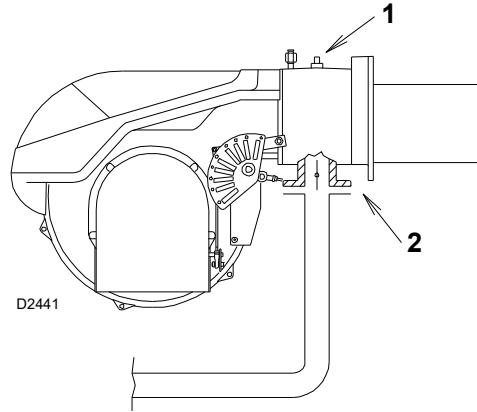

Fig. 25
$\Delta p1$ - Gas pressure is measured at the test point 1)(Fig. 25), with:
$\Delta p2$ - Load loss at gas butterfly valve 2)(Fig. 25) with maximum opening: 90°.
- subtract the combustion chamber pressure from the gas pressure measured at test point 1)(Fig. 25);
- Gas pressure at test point 1)(Fig. 25) = 1 "WC